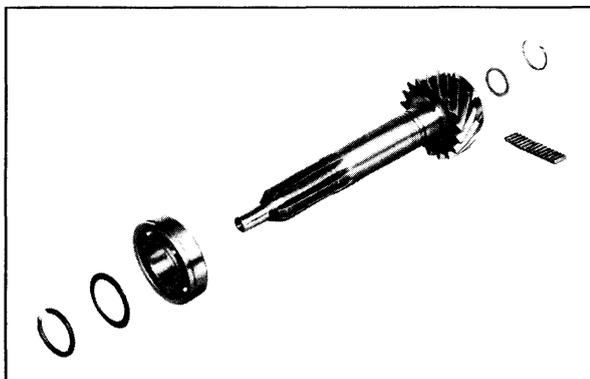

Fig. 11-23 Main Drive Gear Assembly
**Servicing Main Drive Gear (Fig. 11-23)**